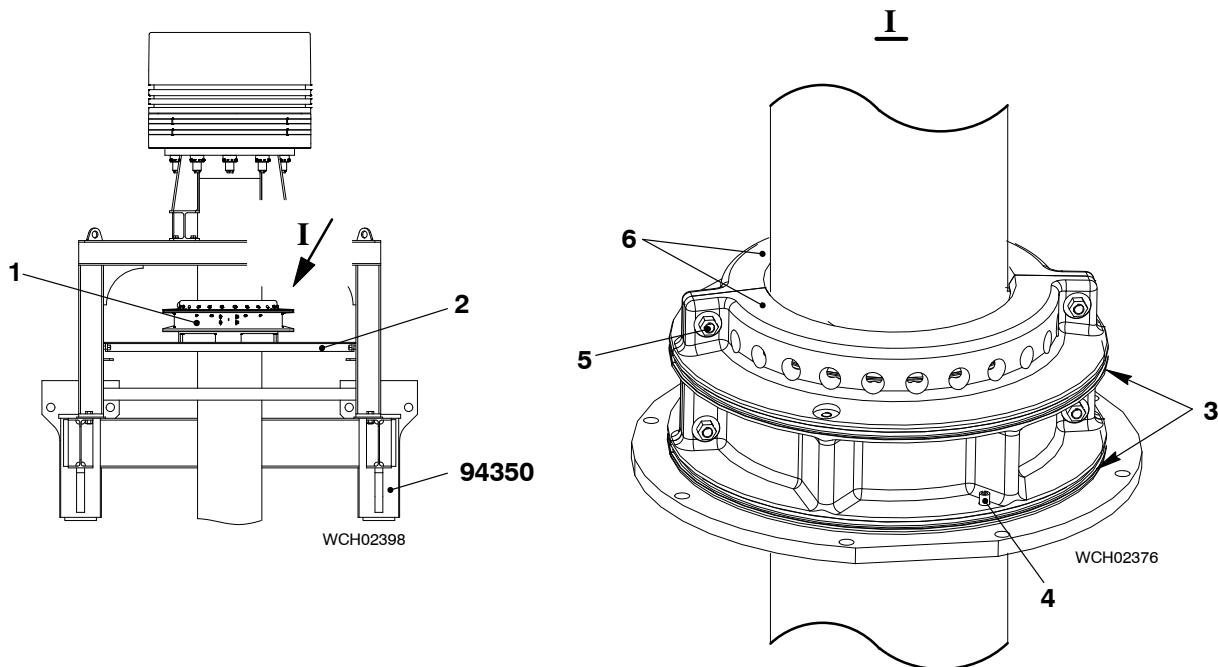

Fig. 1
- 1) Make sure that the piston rod gland (1, Fig. 1) is in the correct position on the two hinged covers (2) of the support device (94350).
- 2) Remove the four screws (5).
- 3) Remove the O-Rings (3).
- 4) Remove the spring dowel pin (4).
- 5) Push the two parts of the housing (6) away from the piston rod.
- 6) Remove the two parts of the housing (6).
- 2) Make sure that the tension springs (1, 5) and the O-rings (5, Fig. 1) are serviceable. If necessary, replace the unserviceable parts.